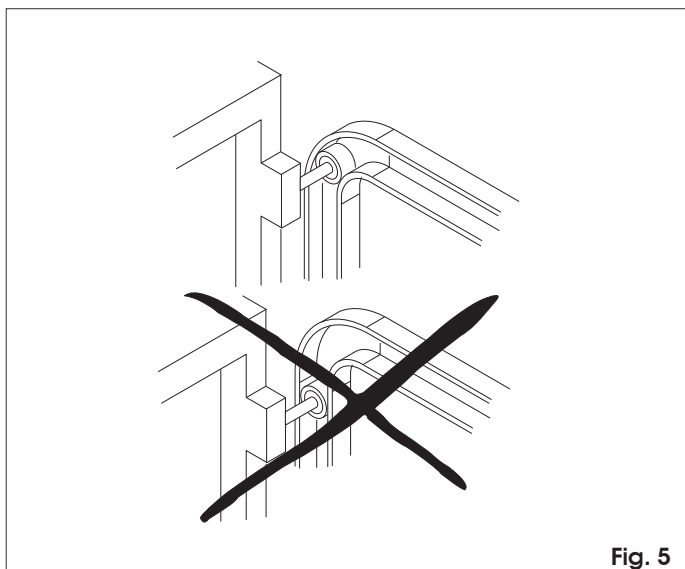

Fig. 5
- Check if the upper guide roller of the sectional door is in the horizontal part of the guide while the door is closed (fig. 5).